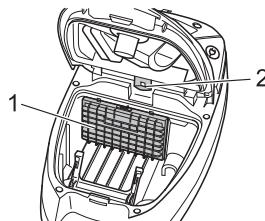

Fig.20
- **Motor protection filter (Fig. 20/1)** prevents larger particles from destroying the motor in case the dust filter bag is defective.
- **Hygienic exhaust filter (Fig. 20/2)** removes microscopic particles from the exhaust air stream.